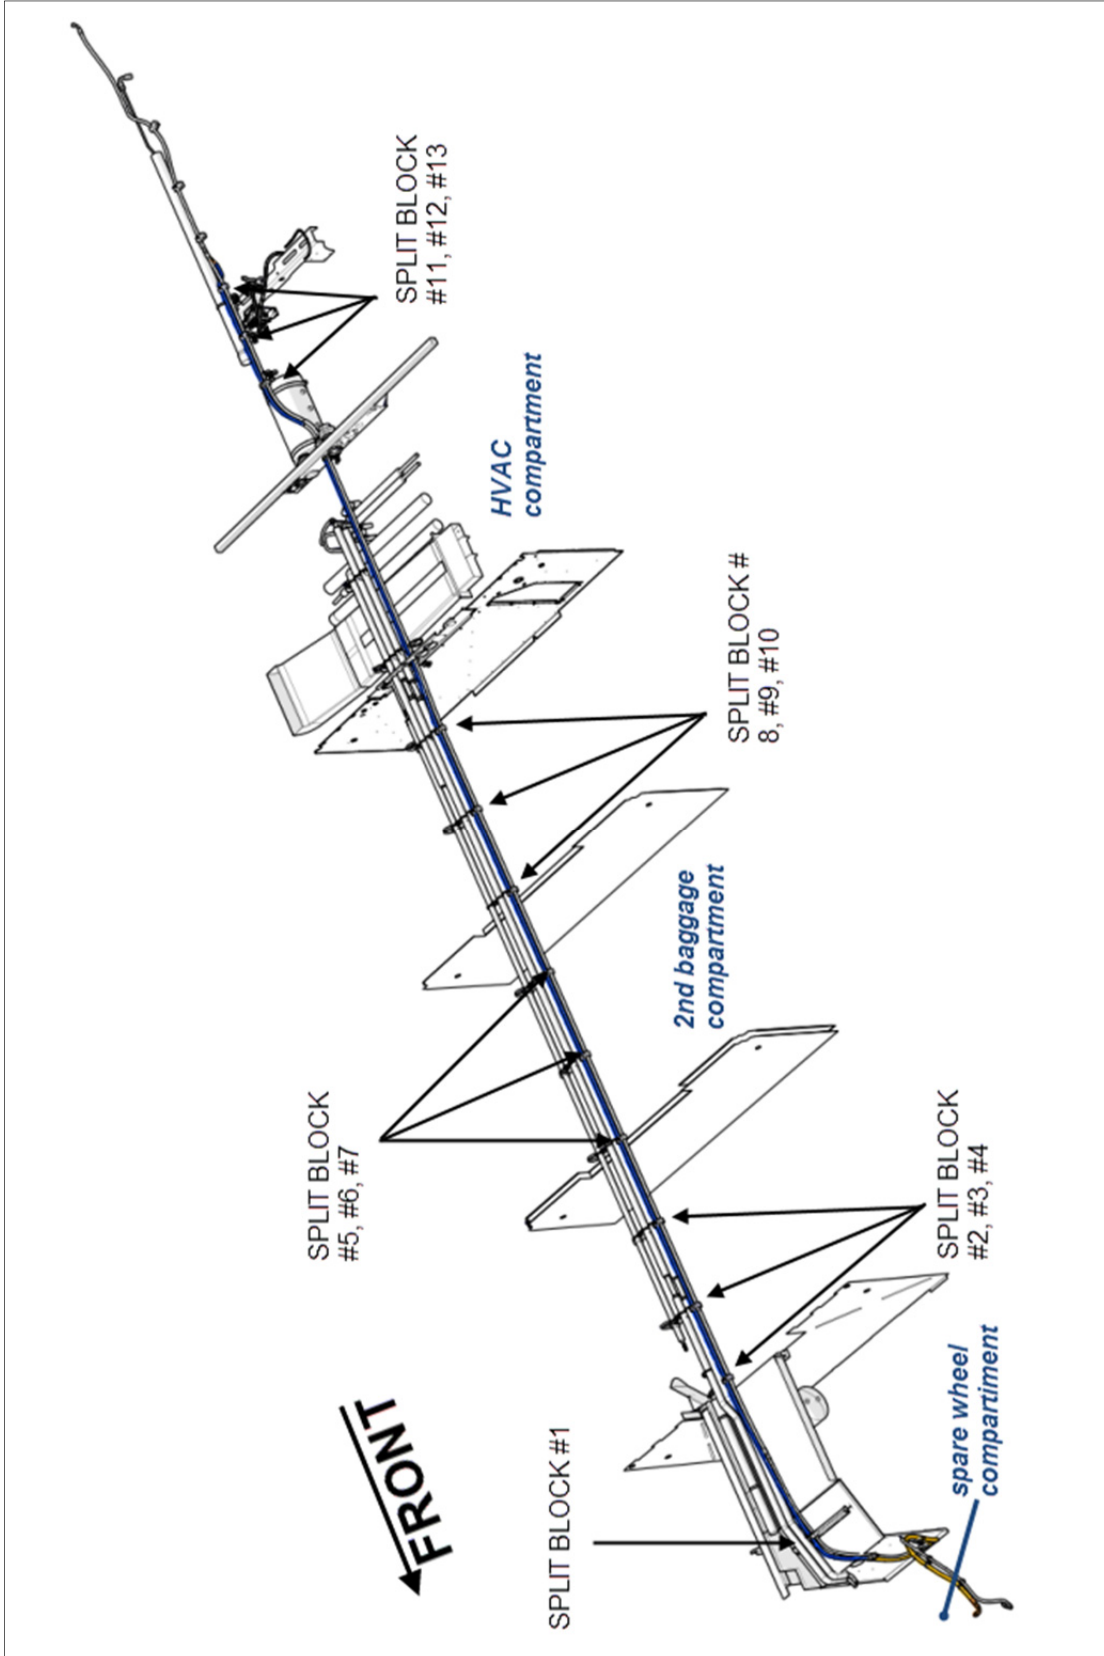

FIGURE 1 : POWER STEERING PUMP DISCHARGE HOSE (PRESSURE)
12. Remove thirteen (13) split blocks identified in figure 1. Note that split blocks 11, 12 & 13 are located at the top of the rear wheel well.
24. Install the new thirteen (13) split blocks #504189 (figure 1 & 15). Reuse the retainer plates and existing screws except for the split blocks #11, #12 & #13 located in the rear wheel well where the existing hardware is more likely to be corroded.